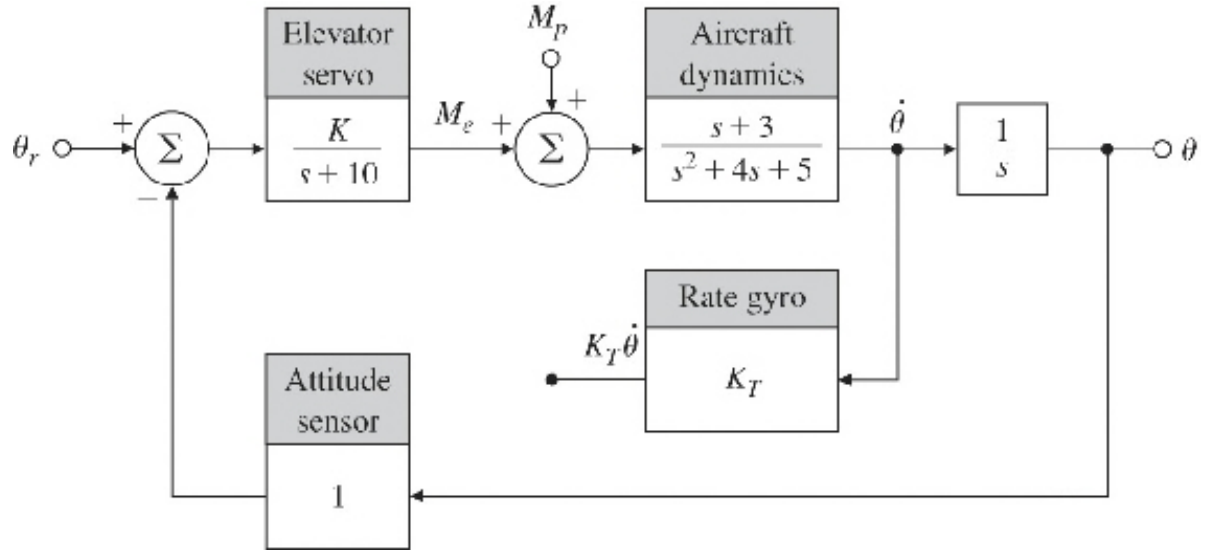

Fig. 5.67 Golden Nugget Airlines Autopilot
39. Golden Nugget Airlines has opened a free bar in the tail of their airplanes in an attempt to lure customers. In order to automatically adjust for the sudden weight shift due to passengers rushing to the bar when it first opens, the airline is mechanizing a pitch-attitude auto pilot. Figure 5.67 shows the block diagram of the proposed arrangement. We will model the passenger moment as a step disturbance  $M_p(s) = M_0/s$ , with a maximum expected value for  $M_0$  of 0.6.